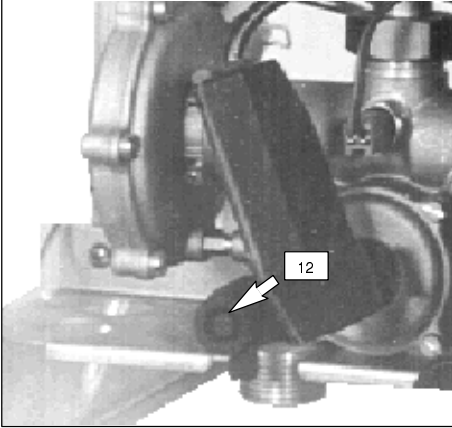

fig. 6.4
- 2 Turn on the central heating drain cock (12 in fig. 6.4).